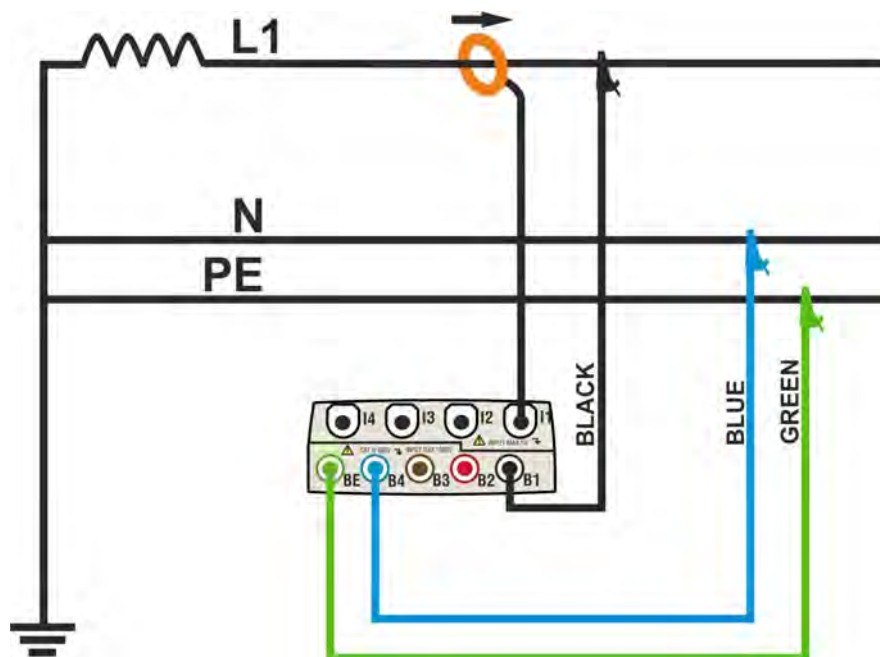

Fig. 130: Meter connection in a SINGLE phase system
2. Connect voltage test leads on Phase, Neutral and Ground cables considering the colours as shown in Fig. 130).
3. Connect the transducer current clamp on L1 Phase cable as shown in Fig. 130) respecting the clamp's arrow direction indicating the current standard sequence from generator to load. **On Real Time Values' section screens always verify the positive value of Active Power and the power factor relative to load which should be normally inductive** before starting a recording. Reverse the clamp by 180 degrees on cables in case of negative readings.